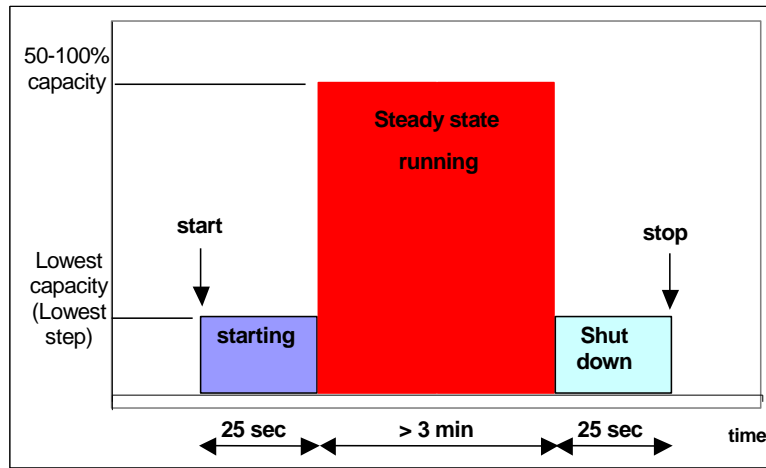

Fig. 24: starting and stopping the compressor;
To limit the peak current when starting, the electric motors are started in the part-winding configuration, or alternatively with the windings connected in the star configuration (see chapter 6: 'Electrical devices'). This, however, means also a drop in the starting torque, and as a result the resisting torque needs to be reduced in order to start the compressor without excessively overloading the electric motor. For this purpose, SRMTEC recommends to start the compressors at the minimum capacity step, see Fig. 24. Concerning the ES3 series compressors, distinction needs to be made between the step and the stepless configuration.
For this reason, so as to stop and re-start the compressor at the minimum capacity step the valve (14) must be energized for around 25 seconds before switching off the compressor, see Fig. 24. Moreover the valve (14) should be kept energized during the compressor standstill periods.
The starting and stopping procedure indicated in Fig. 24 has to be followed for all the screw compressors, both in the step and in the stepless version, as this avoids noisy stopping due to the temporary reverse rotation with high mass flow.